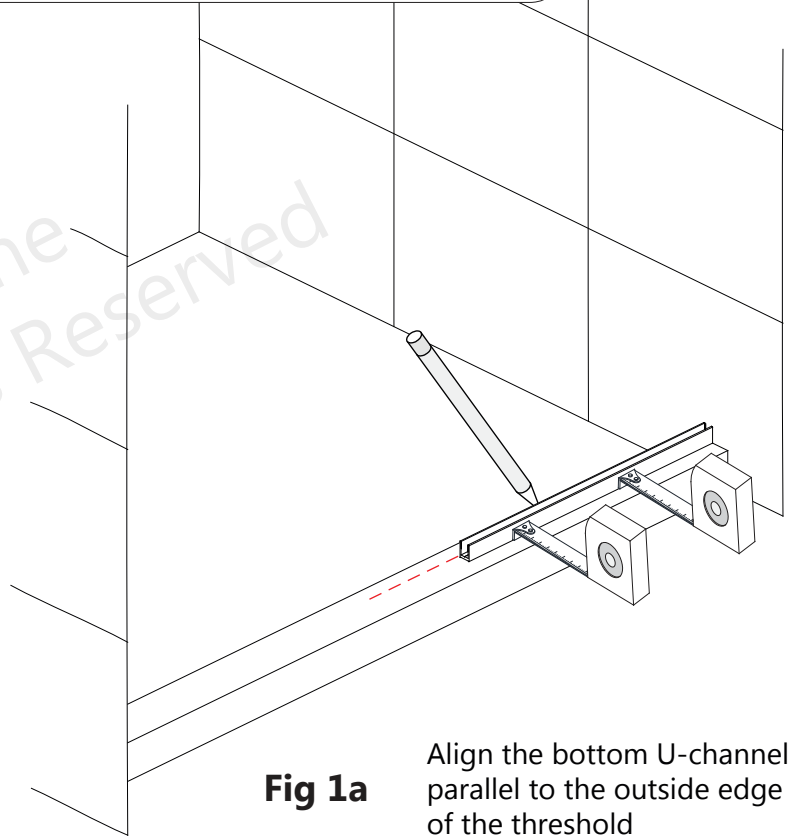
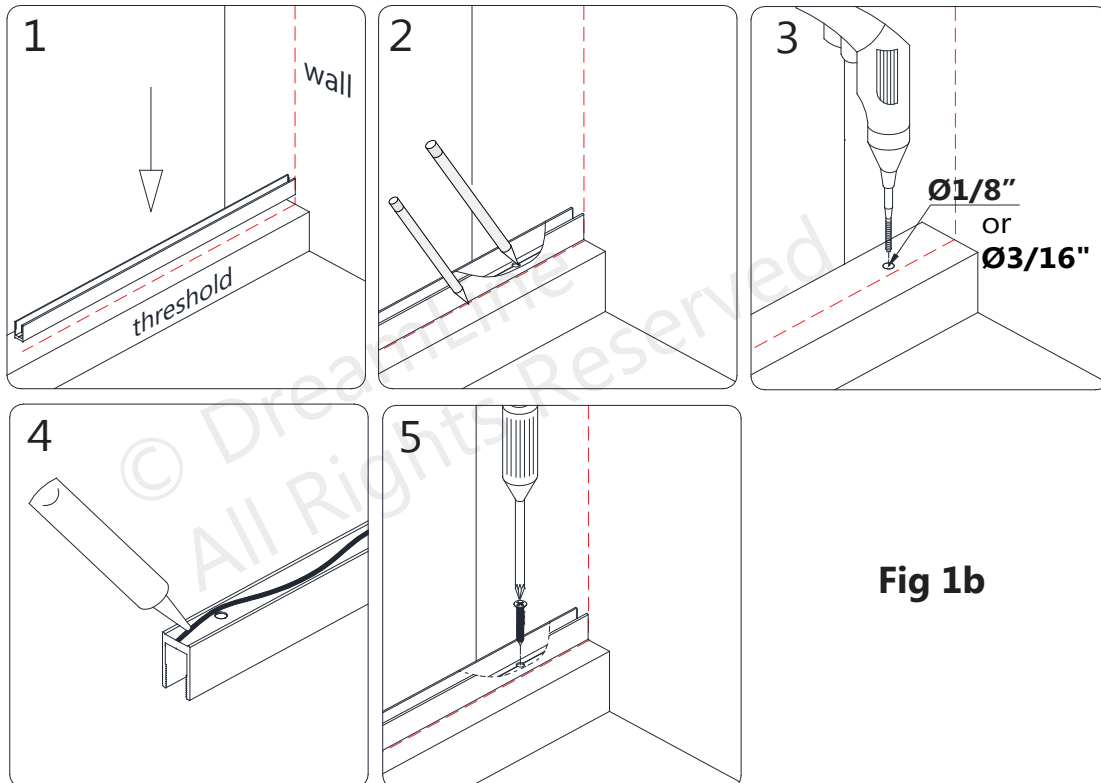

Fig 1a
Fig 1b
• Drill a **Ø3/16" (4mm)** hole up to the stud, drill an **Ø1/8" (3mm)** pilot hole into the stud. (Fig 1b.3)
• Apply a bead of silicone to the bottom of the **Bottom U-Channel (34") (#29)** and attach it to the threshold using the **ST4.0 x 40 Pan Head Screws (#23)**. (Fig 1a and Fig 1b)